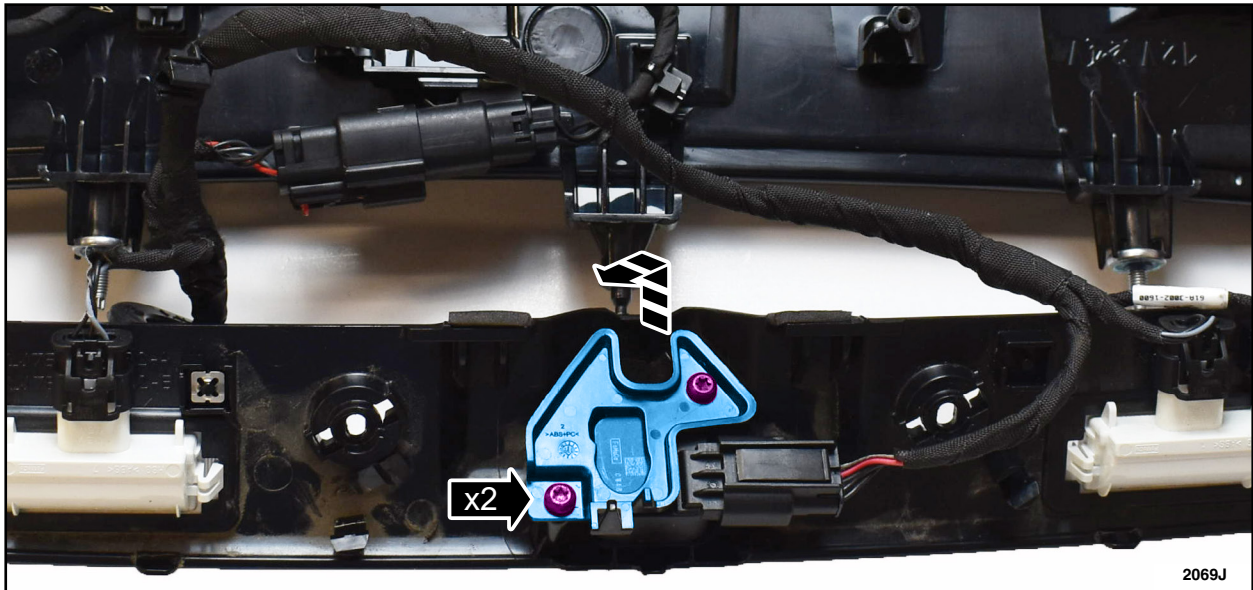

FIGURE 11
6. Remove the two (2) rear view camera bracket fasteners and the camera bracket. See Figure 11.
9. Install the rear view camera bracket and the bracket fasteners by reversing Step 6. See Figure 11.